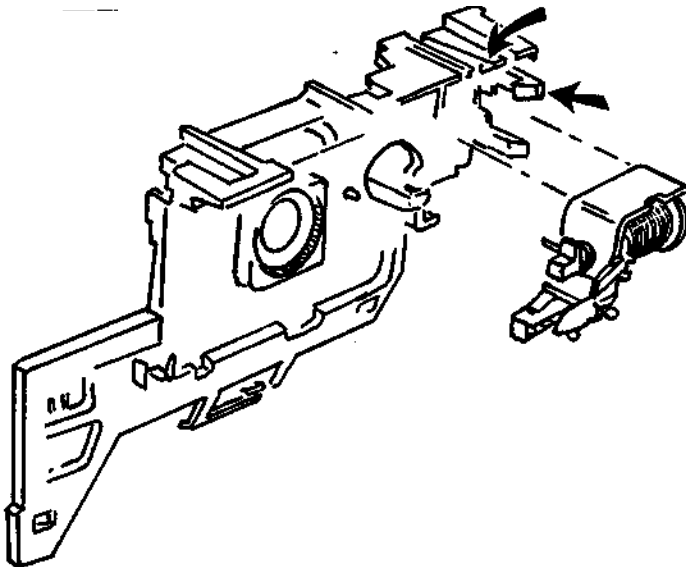

Fig. 26 Removing Solenoid & Plunger from Base Block
30. Using a soldering aid, remove the Solenoid from the Base Block by releasing the two tangs (see Fig. 26). Carefully pry out the Solenoid, with plunger in place, using the soldering aid as a lever.